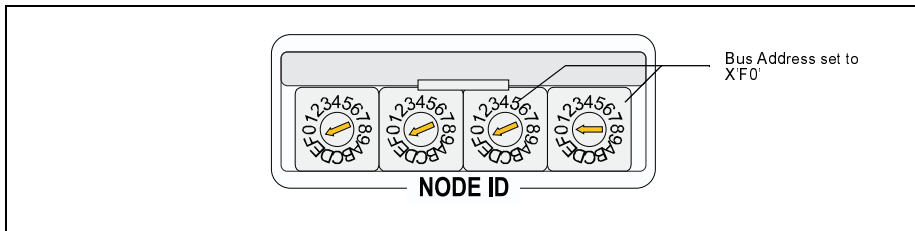

Figure 6-3 Bus Address Settings
2. Set rotary switches 3 and 4 to F0. Figure 6-3 illustrates the bus address switch settings.